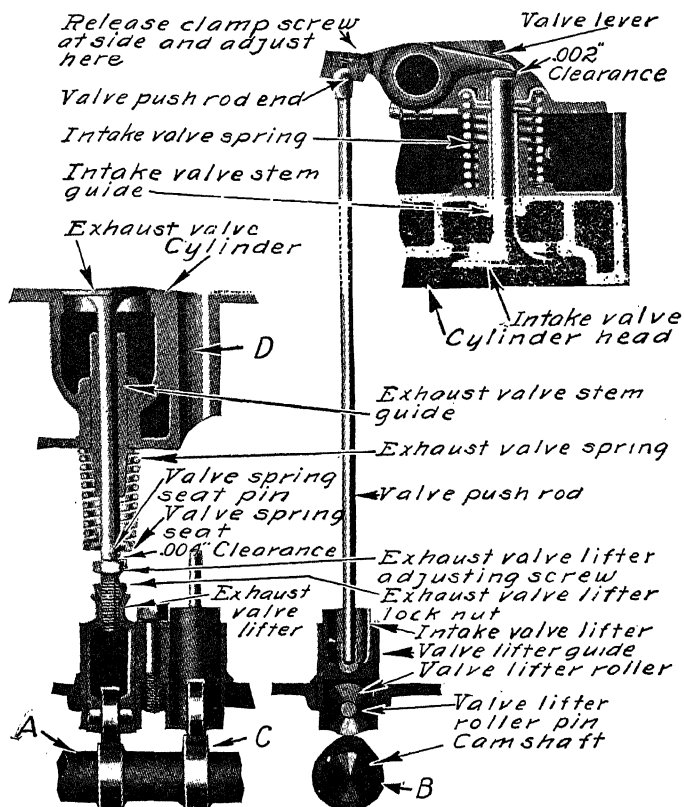

Fig. 5. Typical Valve Operating Mechanism for an F-Head Engine
**F-Head Engine.** The F-head engine is designed with one valve at the side, similar to the design of the L-head, and with the other overhead as in the I-head engine. Fig. 5 illustrates the F-head valve mechanism. At *A* appears a section of the camshaft with the two valve lifters. The exhaust valve is the side valve and the overhead valve is the intake. The reader will be interested in making a study of this valve mechanism since the names appearing on this illustration are those adopted by the S.A.E. and are those which should be used in speaking of the valve actuating parts and the valves. The parts at *B* have been turned a quarter turn and moved to the side for the sake of the illustration. The cam *C* is the same as *B*, but viewed from the side position. The valve push rod passes through the cylinder casting at *D* when in natural position.